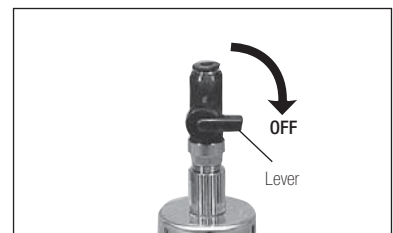

Fig. 1
(1) Turn the ON/OFF valve lever to the OFF position. (Fig. 1)